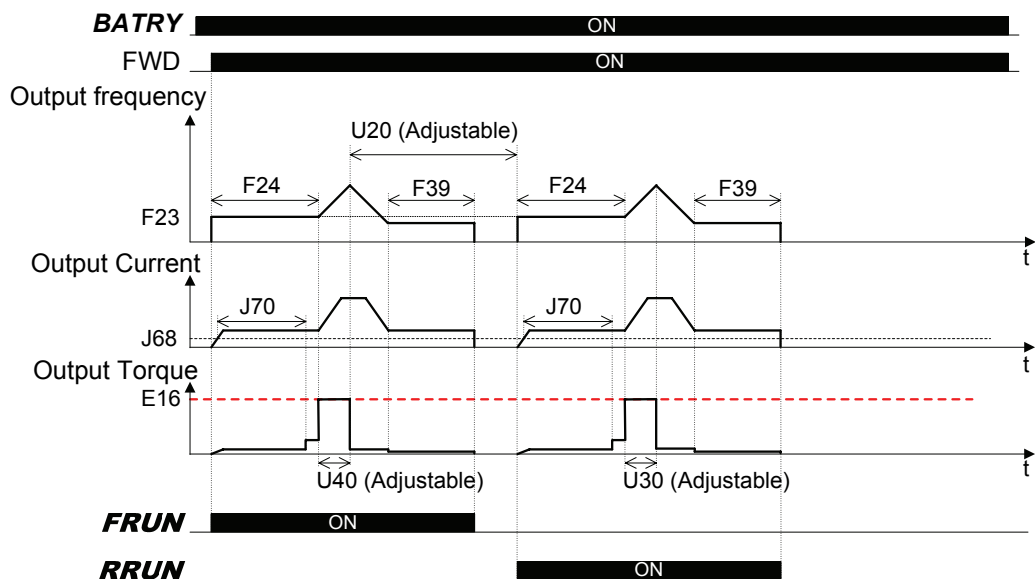

Figure 3: Behaviour when torque limit is reached in both directions
- If the output torque limit is surpassed in REV direction as well, the inverter will stop the motor, as depicted in figure 3.